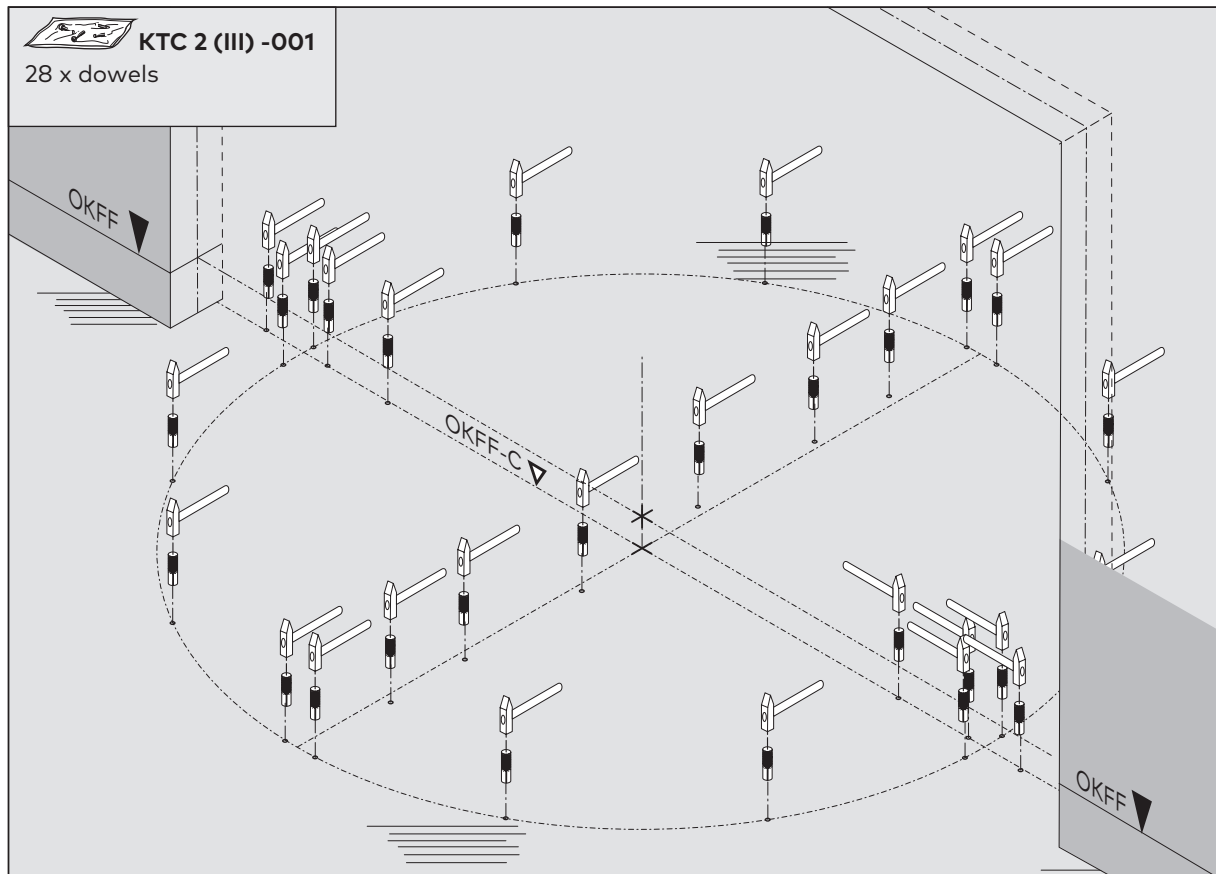

Fig. 12 Inserting dowels
9. Insert dowels (Fig. 12) into the drill holes.